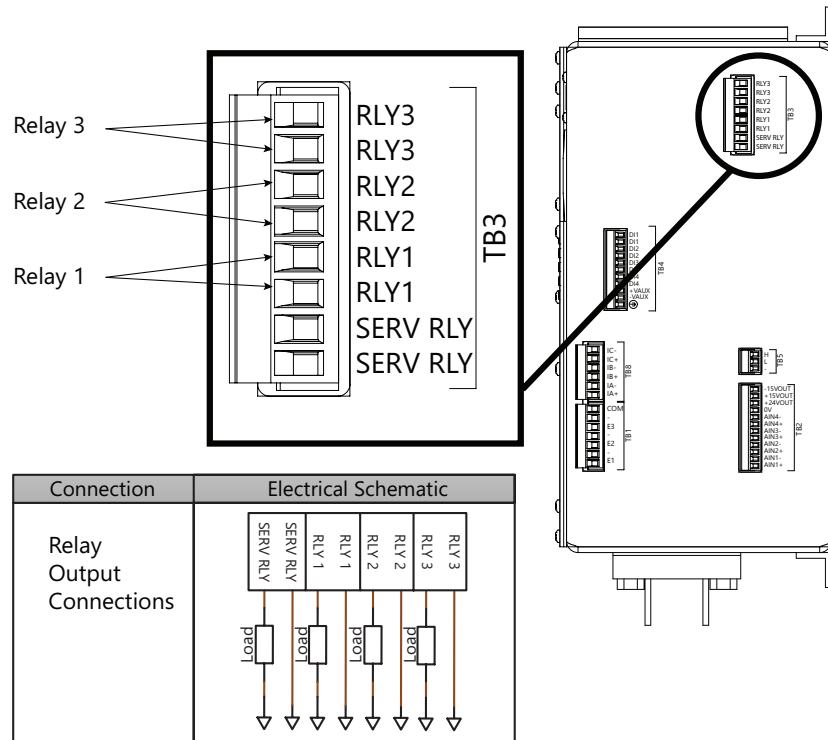

Figure 17 Relay Output Connections
There are three programmable relay outputs and one service relay output. Relays 1-3 are a Form A sealed type that can be programmed to be normally open (NO) or normally closed (NC). During normal operation, the service relay contact closes when power is applied. The service relay contact opens when power is removed or an internal error occurs. See Figure 17.